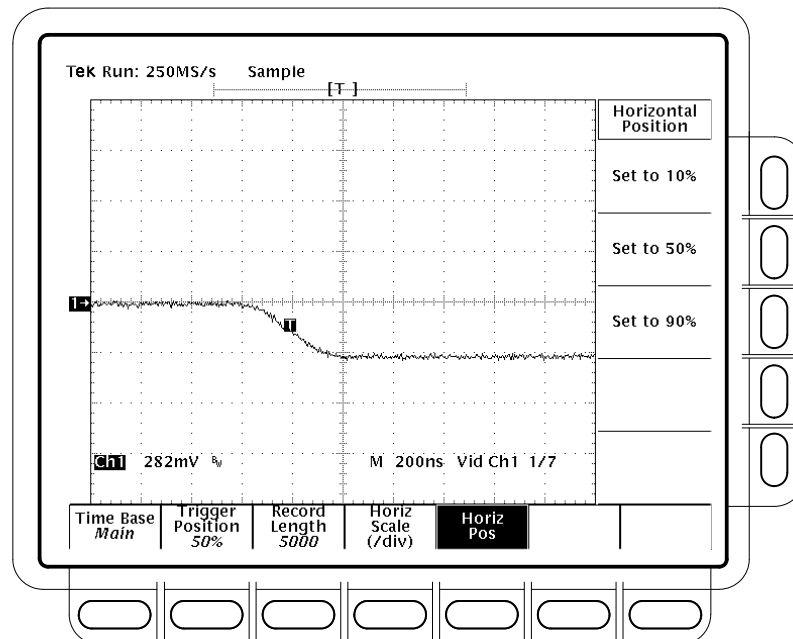

Figure 1–35: Line Count Accuracy Test Setup Waveform – TDS 684A Shown
- Verify that the cursor is positioned on a positive slope of the burst signal. See Figure 1–36.